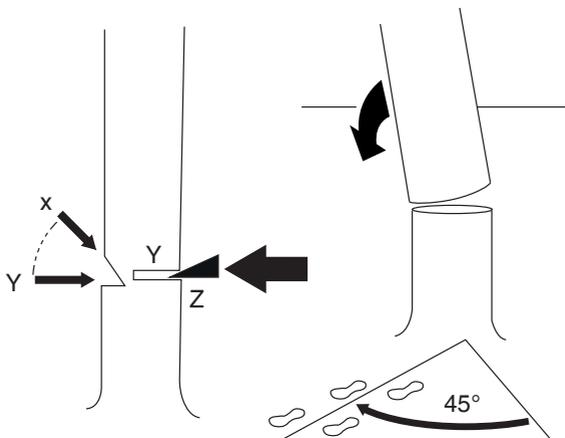

Figure 4
- Before felling, remove soil, rocks, loose bark, nails, or wires from the tree. Make a notch cut on the side of the tree facing the intended fall direction. The notch should be about one-third ($\frac{1}{3}$) of the tree's diameter deep and cut perpendicular to the fall direction. Start with a lower-level notch first-this helps prevent the chain or guide bar from getting pinched when making the second notch. (See Figure 4 for reference.)